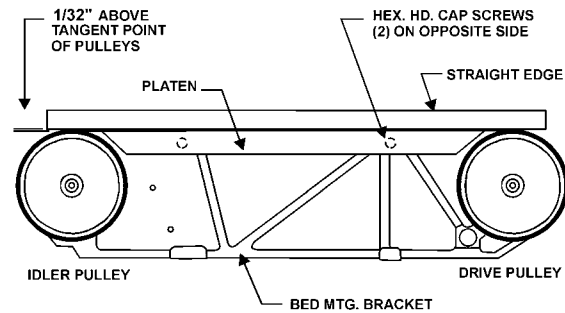

FIGURE 7
Swing the end guard out of position and remove the side guard. Loosen the two hex screws (A) on the opposite side of the belt arm and adjust the platen. See Figure 7. The platen should be  $1/32''$  to  $1/16''$  above the tangent points of the pulleys and in contact with the belt at both ends. A straight edge can be used with the belt to align the platen.